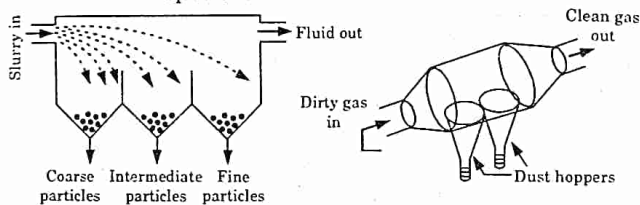

Fig. 3.4.1. Gravity settling chamber.
1. It consists of a cylindrical body with multiple dust hoppers as shown in the Fig. 3.4.1.
4. The emitted smokes, when made to pass through a settling chamber Fig. 3.4.1, drop some of their larger sized particles in the chamber, under Stoke's law.